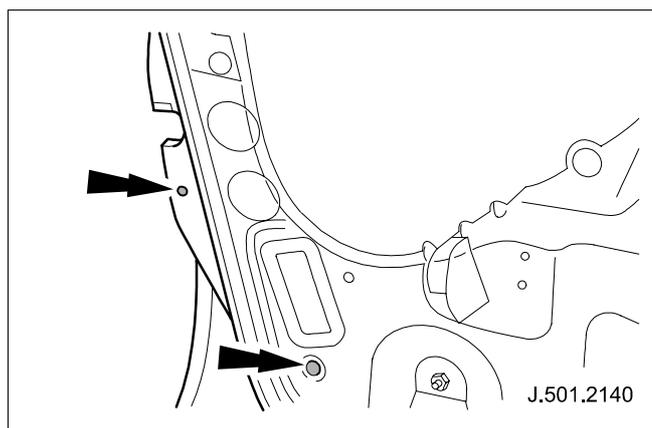

Fig. 3
- 3 Door casing fir tree clips. (See Fig. 3)